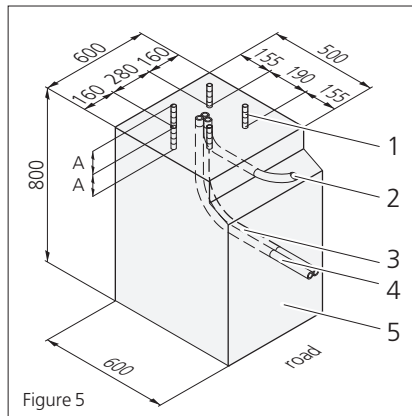

Figure 5
1. Excavate a hole for the foundation to frost-line depth (at least 800 mm). The dimensions of the foundations at the bottom must be at least 600 mm x 600 mm for the MTS series barriers (Fig. 5).
2. Lay separate conduits of 29 mm diameter for the power supply and control-lines. An additional conduit with of 29 mm diameter mm must inserted at road level for loops. (The foundation frame must be suspended with 2 boards above the foundation hole.) (Figure 5).